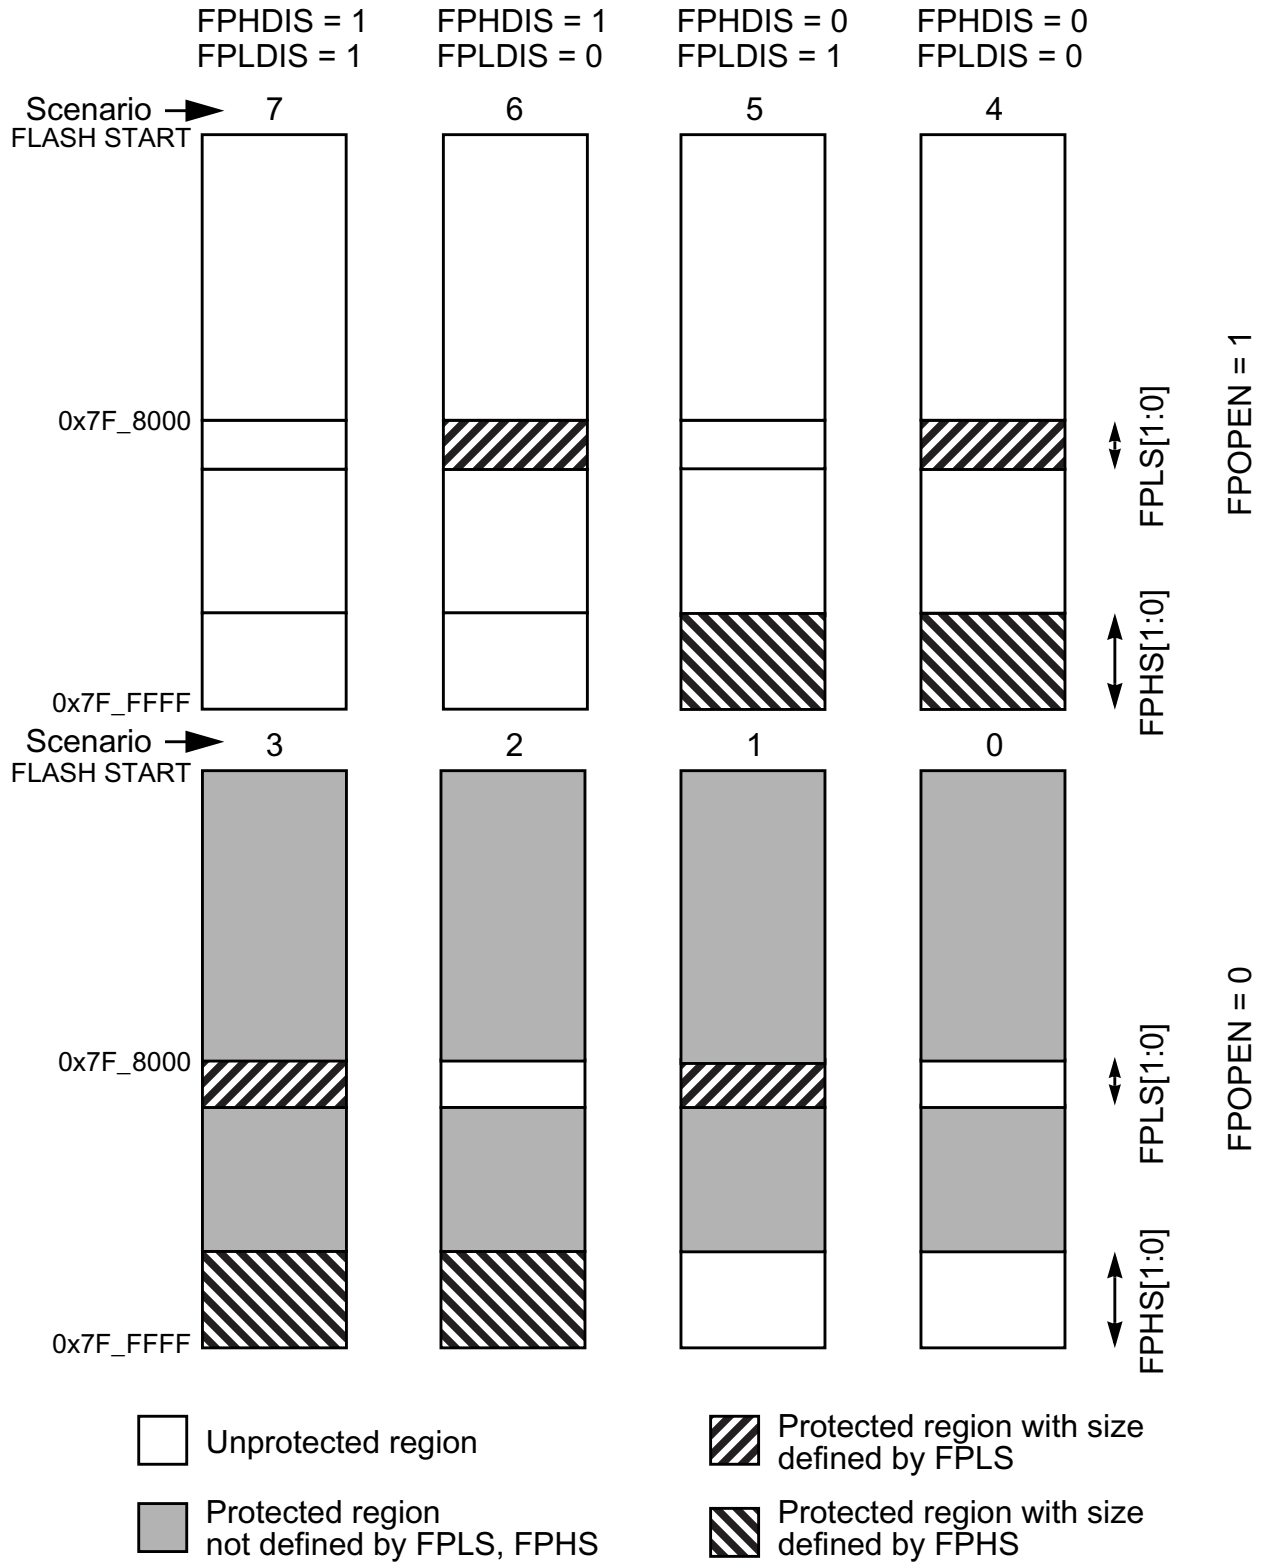

Figure 28-14. P-Flash Protection Scenarios
All possible P-Flash protection scenarios are shown in Figure 28-14. Although the protection scheme is loaded from the Flash memory at global address 0x7F_FF0C during the reset sequence, it can be changed by the user. The P-Flash protection scheme can be used by applications requiring reprogramming in single chip mode while providing as much protection as possible if reprogramming is not required.
1. Allowed transitions marked with X, see Figure 28-14 for a definition of the scenarios.